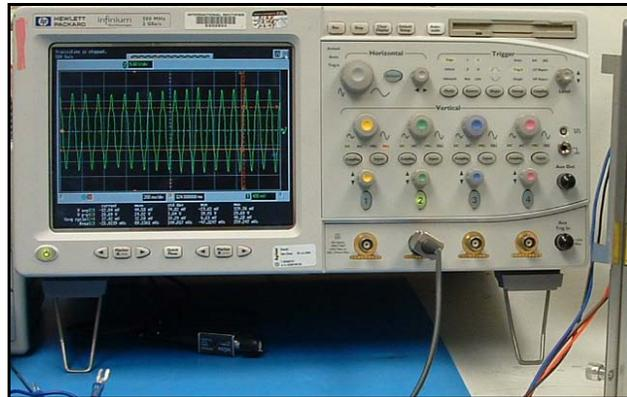

Figure 4—Measuring the back EMF.
4. Motor Back EMF Constant (Ke)—Again connect two phases of the motor to an oscilloscope. Turn the motor at a constant rate and record the waveform as shown in Figure 4. (When the